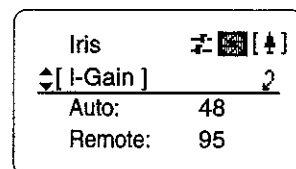

Fig. 1-3
2. Select [I-Gain] using the control key, and then push the Set key. The display is switched to the [I-Gain] screen. (Fig. 1-3)